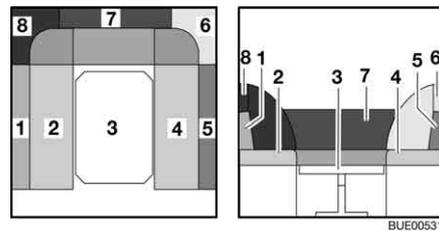

Fig. 92 During conversion
- Pull the seat cushions (Fig. 92,2 and 4) into the centre.
- Insert the back cushions (Fig. 92,1 and 5) between the seat cushions and the exterior wall
- Remove the back cushions (Fig. 92,6, 7 and 8) and lay them aside.